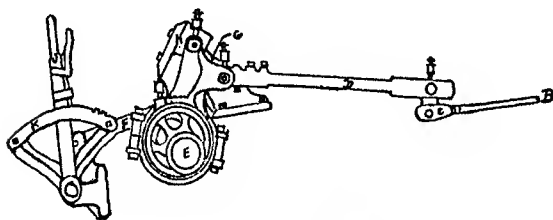

FIG. 82.—WOOLF REVERSE.
**The Woolf Reversing Gear.**—The Woolf reverse on an engine frame with a direct rocker arm is illustrated in Fig. 82. In the cut, B is the valve rod; C the rocker arm; D the eccentric rod; E the eccentric; F the reach rod; G the pedestal block; H the wood block; J the reverse lever, and K the reverse lever quadrant. This gear is both a reverse and changeable cut-off one. This gear has only one eccentric and rod. The eccentric strap is cast with an extended arm which is pivoted at its upper end to a block which slides in a pivoted guide, the angle of which is controlled by the reverse lever. To the eccentric arm be-